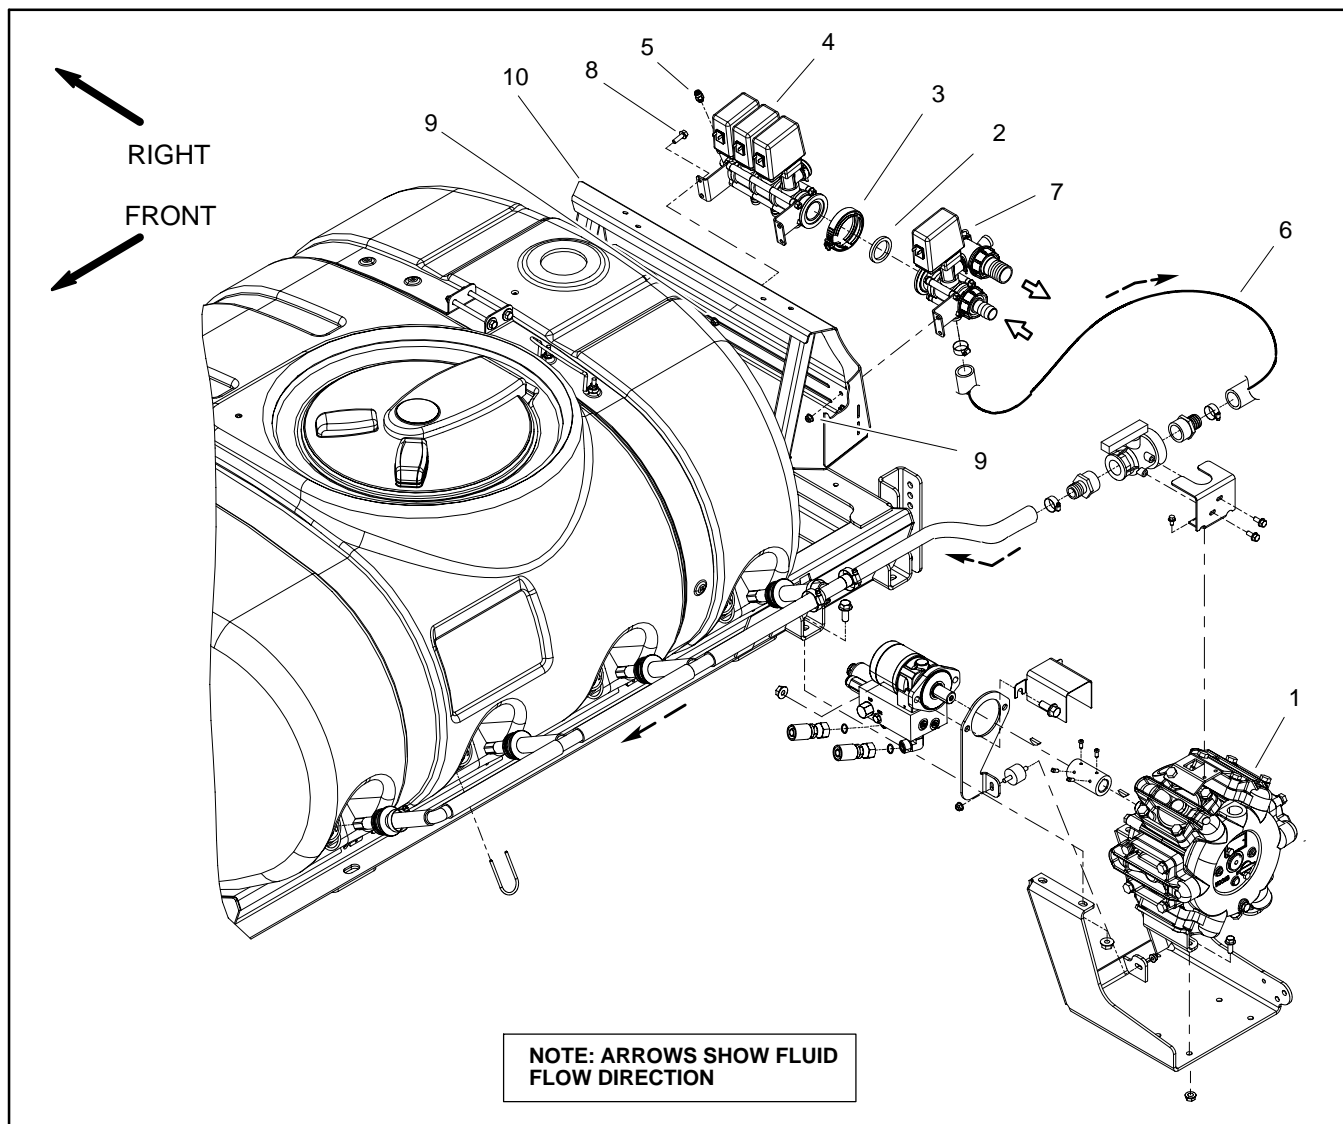
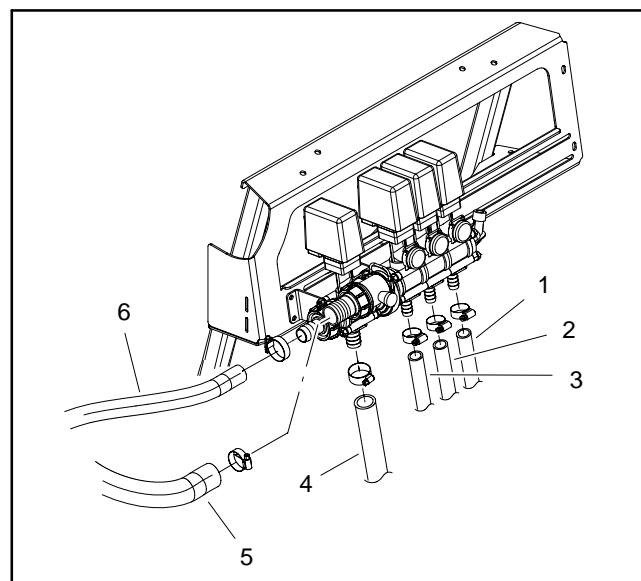

Figure 14
Figure 16
Removal (Fig. 14)
2. Label hoses for proper installation after repairs are completed (Fig. 16). Loosen hose clamps and disconnect hoses from spray control assembly as needed.
3. Loosen screw clamp (item 3) that secures components of spray control assembly.
D. Remove boom manifold valve assembly from machine. Locate and retrieve gasket (item 2).
C. Remove agitation valve assembly from machine. Locate and discard gasket (item 2).
6. Remove additional spray control components as required using Figure 14 as a guide. Discard all removed O-rings and gaskets.
Assembly (Fig. 14)
1. Install spray control components using Figure 14 as a guide. Replace all removed O-rings and gaskets.
3. Make sure that screw clamp (item 3) is positioned on spray control assembly.
4. Position new gasket (item 2) between removed components.
7. Using labels placed during disassembly, install hoses to correct locations on spray control assembly (Fig. 16). Secure hoses with hose clamps.